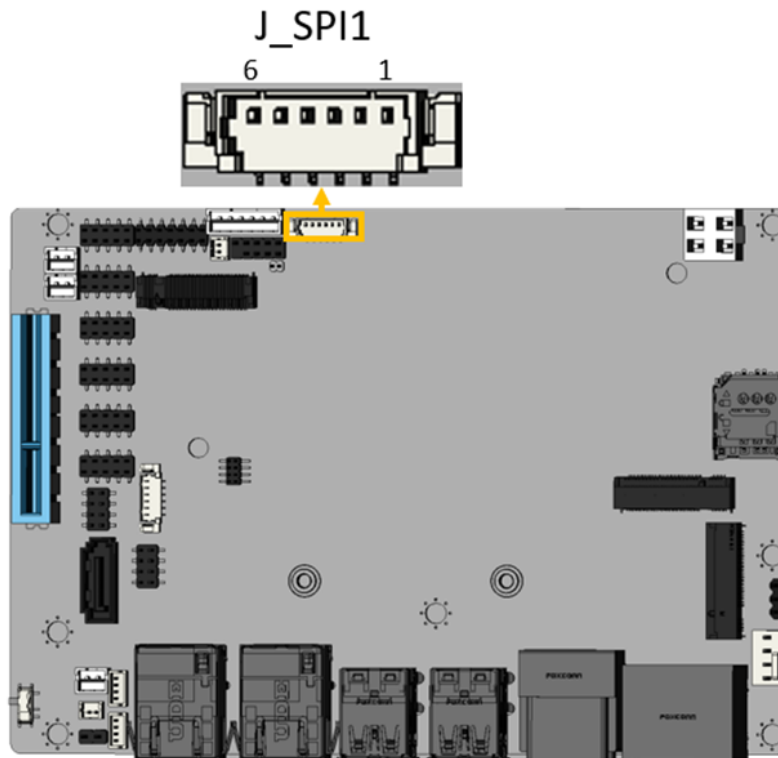

Figure 3-21: Flash SPI ROM Connector Location
- CN Location:** See Figure 3-21